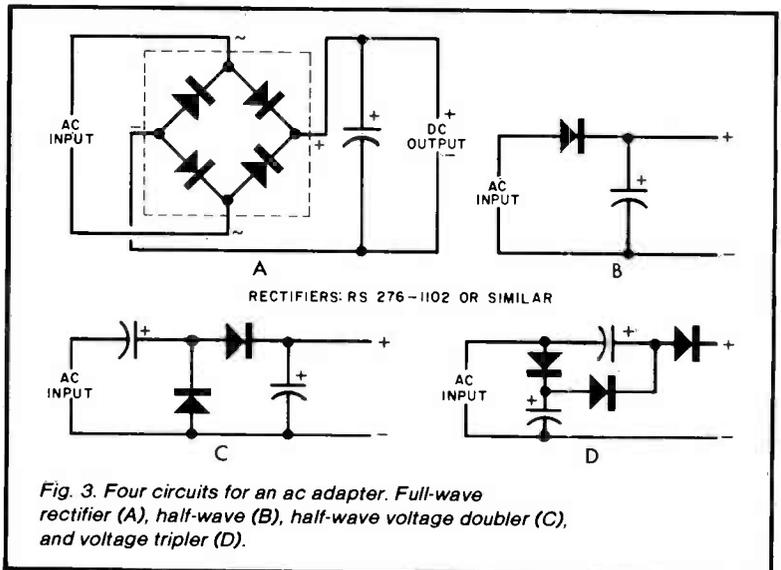

Fig. 3. Four circuits for an ac adapter. Full-wave rectifier (A), half-wave (B), half-wave voltage doubler (C), and voltage tripler (D).
**AC Circuits.** Four typical rectifier circuits for use with ac-only adapters are shown in Fig. 3. A full-wave rectifier like that in Fig. 3A can be had as an encapsulated module or synthesized from discrete silicon diodes. A filter capacitor is added to smooth the output and produce useful dc. For low-current applications where cost is a big factor, a half-wave rectifier circuit can be used. This is shown in Fig. 3B. The voltage doubler (Fig. 3C) and tripler (Fig. 3D) will deliver two and three times, respectively, the open-circuit voltage of a half-